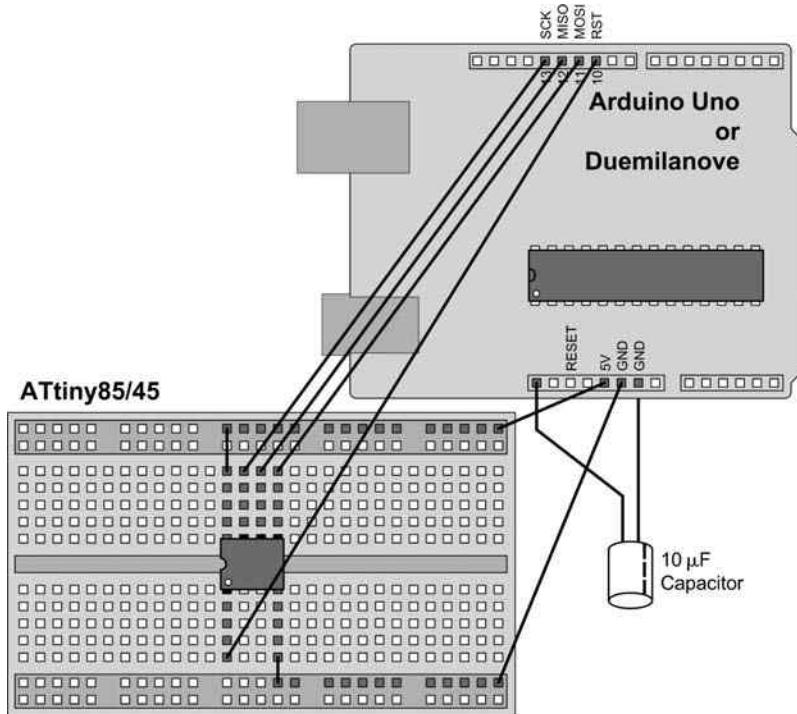
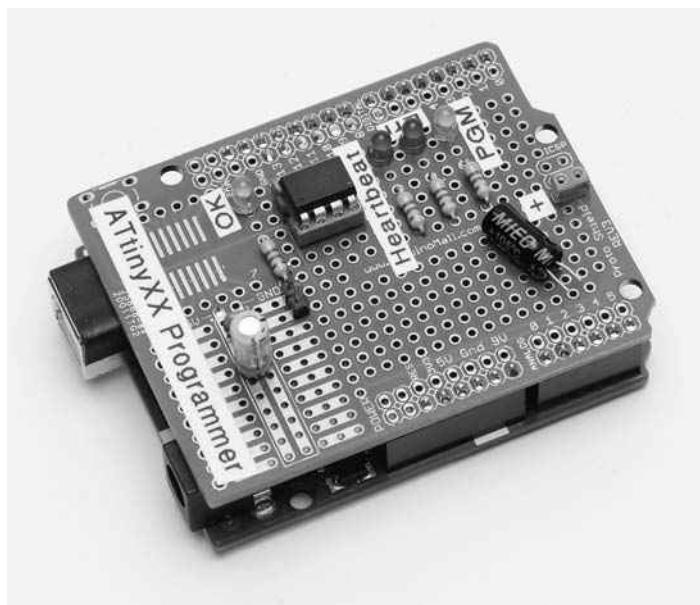

FIGURE 7-6 The layout of the ATtiny85 programming breadboard.
FIGURE 7-7 The programming shield for the ATtiny85 piggybacked to an Arduino.
chance of causing your ATtiny85's untimely death. Figure 7-6 presents a breadboard view of the ATtiny85 programming shield.
To help you prevent confusing physical and logical pin numbers, Table 7-2 gives you the ATtiny85 labels as well as the chip numbers. The table is based on Figure 7-6. The third column of the table tells you where each pin from the ATtiny85 chip (often called just '85 in literature) is connected to your Arduino board. The fourth column relates to the ATmega1280 and ATmega2560 boards. So, for example, as you can see in Figure 7-6, the SCK line from the ATtiny85 runs from pin 7 of the '85 to pin 13 of the Arduino Uno. If you were using a Mega board, the SCK line would run to pin 52 on the Mega board. If you use Figure 7-6 in conjunction with Table 7-2, you should have no trouble wiring the shield.
Because we program ATtiny85 chips fairly often, we moved the breadboard circuit shown in Figure 7-6 to a “programming shield” that just piggybacks onto the Arduino board. (If you want more instructions on building an ATtiny85 programming shield, see: <http://www.instructables.com/id/8-Pin-Programming-Shield/>.) If this is the only ATtiny85 project you plan to build, the breadboard version is good enough. Figure 7-7 shows the shield we built for programming the ATtiny85.
4. Sometimes, having the circuit shown in Figure 7-6 connected to the Arduino board appears to prevent the sketch from properly loading into the Arduino. If that is the case, completely disconnect the ATtiny85 breadboard circuit from the Arduino board, load the sketch, and then reconnect the breadboard to the Arduino board. This is one reason that we created an "ATtiny85 programming shield" based on Figure 7-6. It's a simple matter to remove the shield, load the sketch, and then plug the shield back into the Arduino board.
5. After programming the ATtiny85 chip, you may need to remove it from the programming circuit in order to make sure it is working properly. That is, testing the newly programmed chip in the circuit shown in Figure 7-6 may not work. It's better to remove the chip from the programming socket and put it into the circuit in which you plan to use the chip for testing purposes.